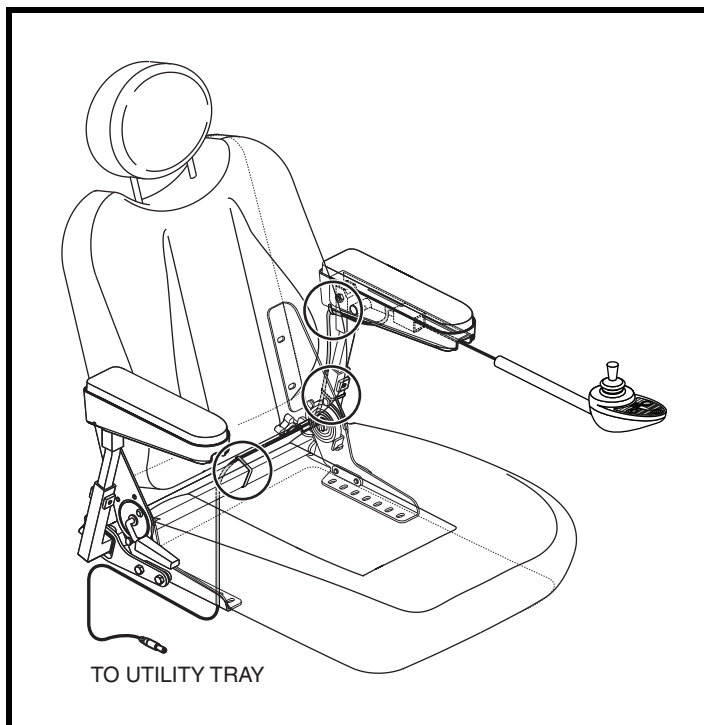

Figure 13. Harness Routing
7. Route the harness to ensure that it cannot be pinched in the seat hinge. **See figure 13.**